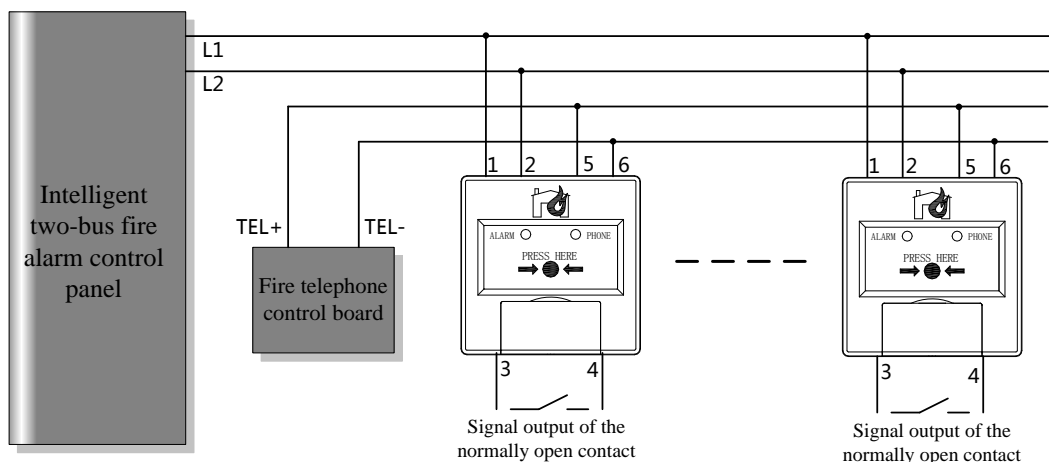
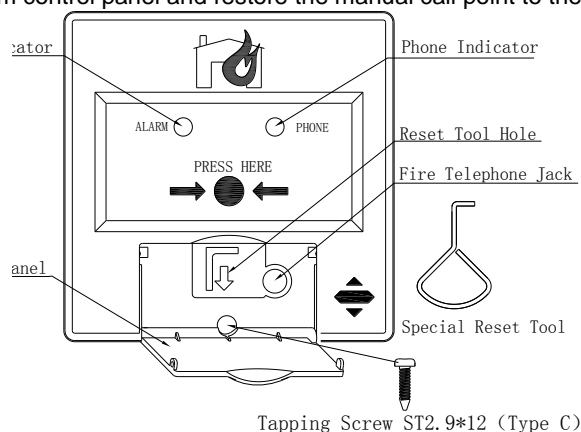

Fig.4
Fig.5
3. Fig.4 shows the extended functions and wiring diagram of the product.
**Alarm:** After a fire alarm is manually confirmed, press the pressing sheet on the panel of the manual call point (see Fig.5). After that, a manual fire alarm will be given and the terminals 3 and 4 of the normally open contact will be closed (see Fig.4) at the same time. After the manual fire alarm is given, the ALARM indicator will remain lit.
**Reset:** Open the small movable panel on the panel of the manual call point (see Fig.5) and then press the RESET key gently with a special tool to restore the pressing sheet that has been pressed to its original status. Reset the fire alarm control panel and restore the manual call point to the normal monitoring status.
**Fire telephone:** Open the small movable panel (see Fig.5) and expose the fire telephone jack. Communication may be realized after the hand-held fire telephone connector is inserted into the fire telephone jack.
screw shown in Fig.5.